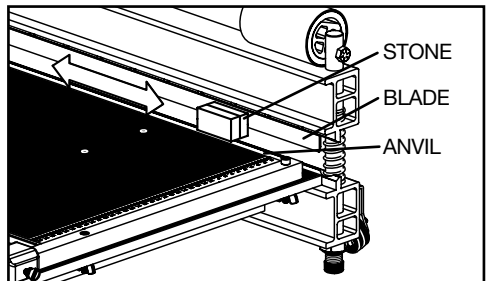

Figure 9
**BURRS OR NICKS ON BLADE:** Burrs or nicks may develop on the inner (bed facing) side of the blade that can cause the blade to seem dull and cut less efficiently. The cutter includes a sharpening stone that can be used for restoring the edge as much as possible (Figure 9). There is no need to remove the blade from the blade carrier. Simply raise the leverage handle to raise the blade enough distance for adequate clearance of the stone, then lay